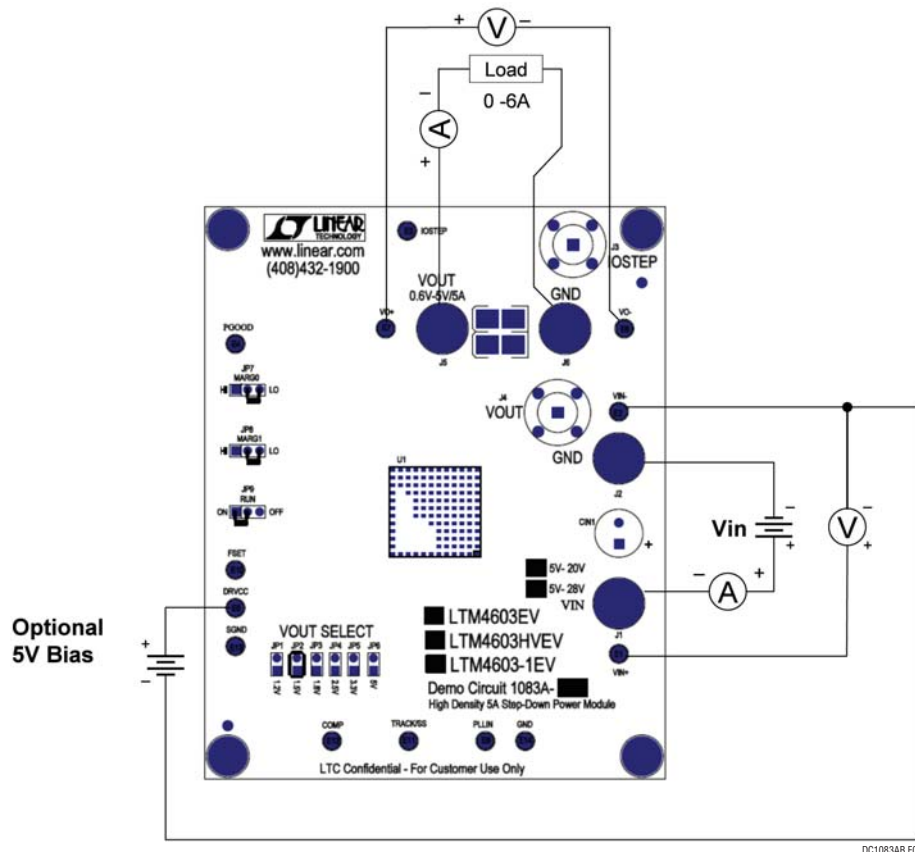

Figure 1. Test Setup of DC1083A-B (DRVCC Bias Supply is Optional)
Demonstration circuit 1083A-B is an easy way to evaluate the performance of the LTM4603HV. Please refer to Figure 1 for proper measurement equipment setup and follow the procedure below:
2. With power off, preset the load to 0A and  $V_{IN}$  supply to be less than 28V. Connect the input power supply, load and meters as shown in Figure 1.